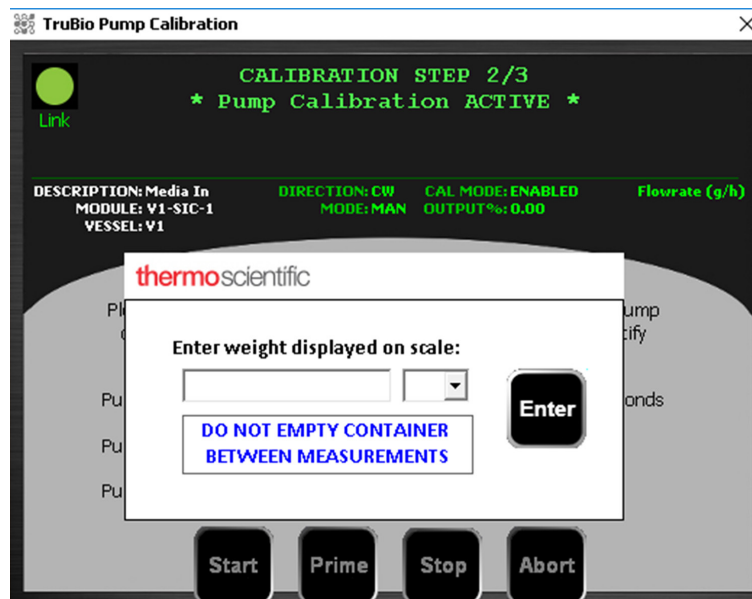

Figure 3.35. Screen for entering weight displayed on scale.
9. At the end of the pump activations, a prompt appears to enter the weight recorded on the scale (Figure 3.35). **DO NOT** tare or zero the scale between measurements. **DO NOT** empty the receiver container between measurements.